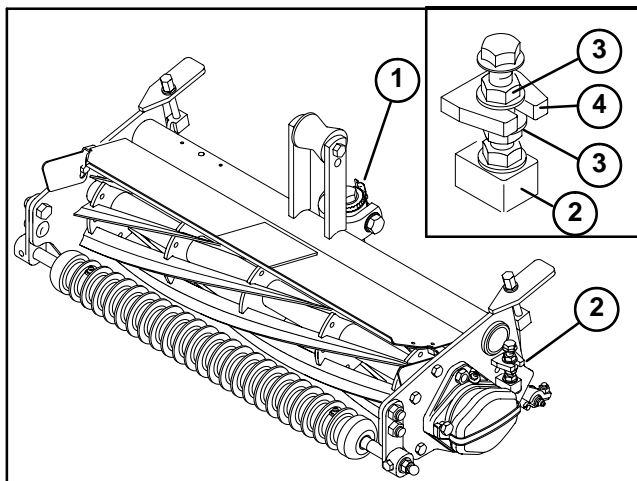
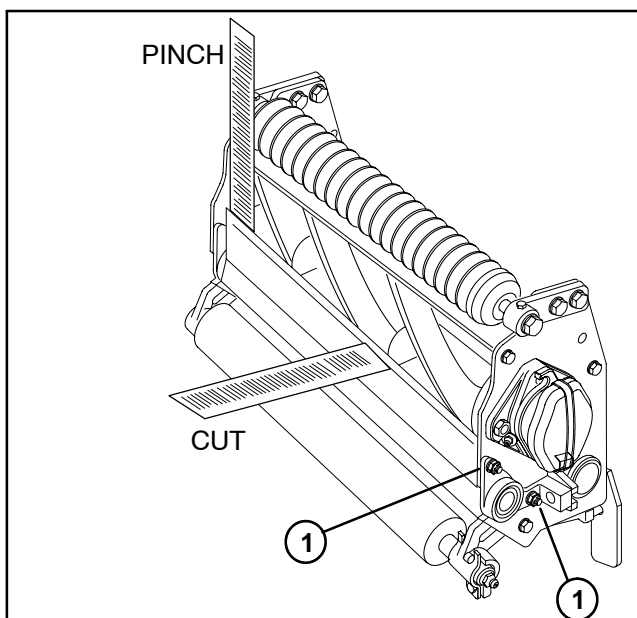

Figure 9
Figure 10
3. Make sure reel contact is removed by turning the bedknife adjuster counterclockwise (Fig. 9).
4. Position cutting unit with the front roller up (Fig. 10).
5. Loosen both flange lock nuts secured to the frame tab (Fig. 9). Also, loosen both flange lock nuts securing the pivot hub to the frame (Fig. 10).
6. Rotate flange lock nuts, on the top and bottom of the frame tab, clockwise or counterclockwise to raise or lower the end of the bedbar, as required. Do not loosen the bottom flange nut tightened against the pivot hub. Tighten both flange lock nuts against the frame tab to secure the adjustment (Fig. 9).
7. Check adjustments by repeating steps 3. and 4. After the adjustments are accomplished, make sure of the following (Fig. 10):
8. When light contact on the paper is evident at each end of the bedknife, tighten flange lock nuts to securely retain the pivot hub (Fig. 10).